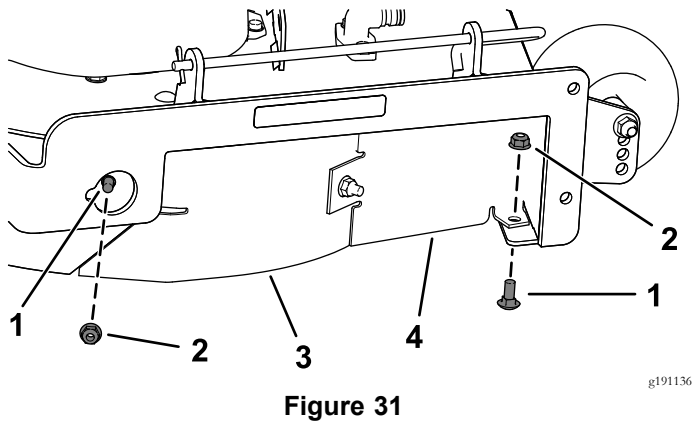

Figure 31
7. Remove the 2 carriage bolts (5/16 x 3/4 inch) and 2 locknuts (5/16 inch) securing the assembled right baffle and baffle guard to the mower deck (Figure 31).